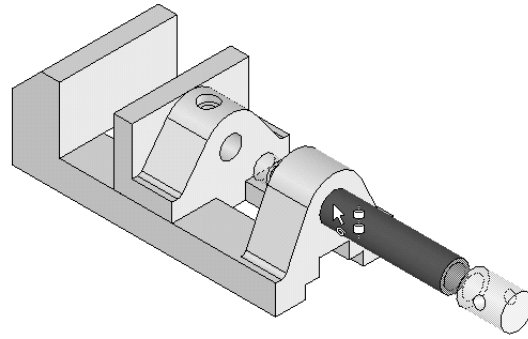

Figure 12-62 Jaw Screw being dragged
6. Drag the Jaw Screw to the hole in the Vice Body, as shown in Figure 12-62; the Jaw Screw appears transparent and the select cursor is replaced by the smart mates cursor. Also, the symbol of the concentric mate is displayed below the cursor.